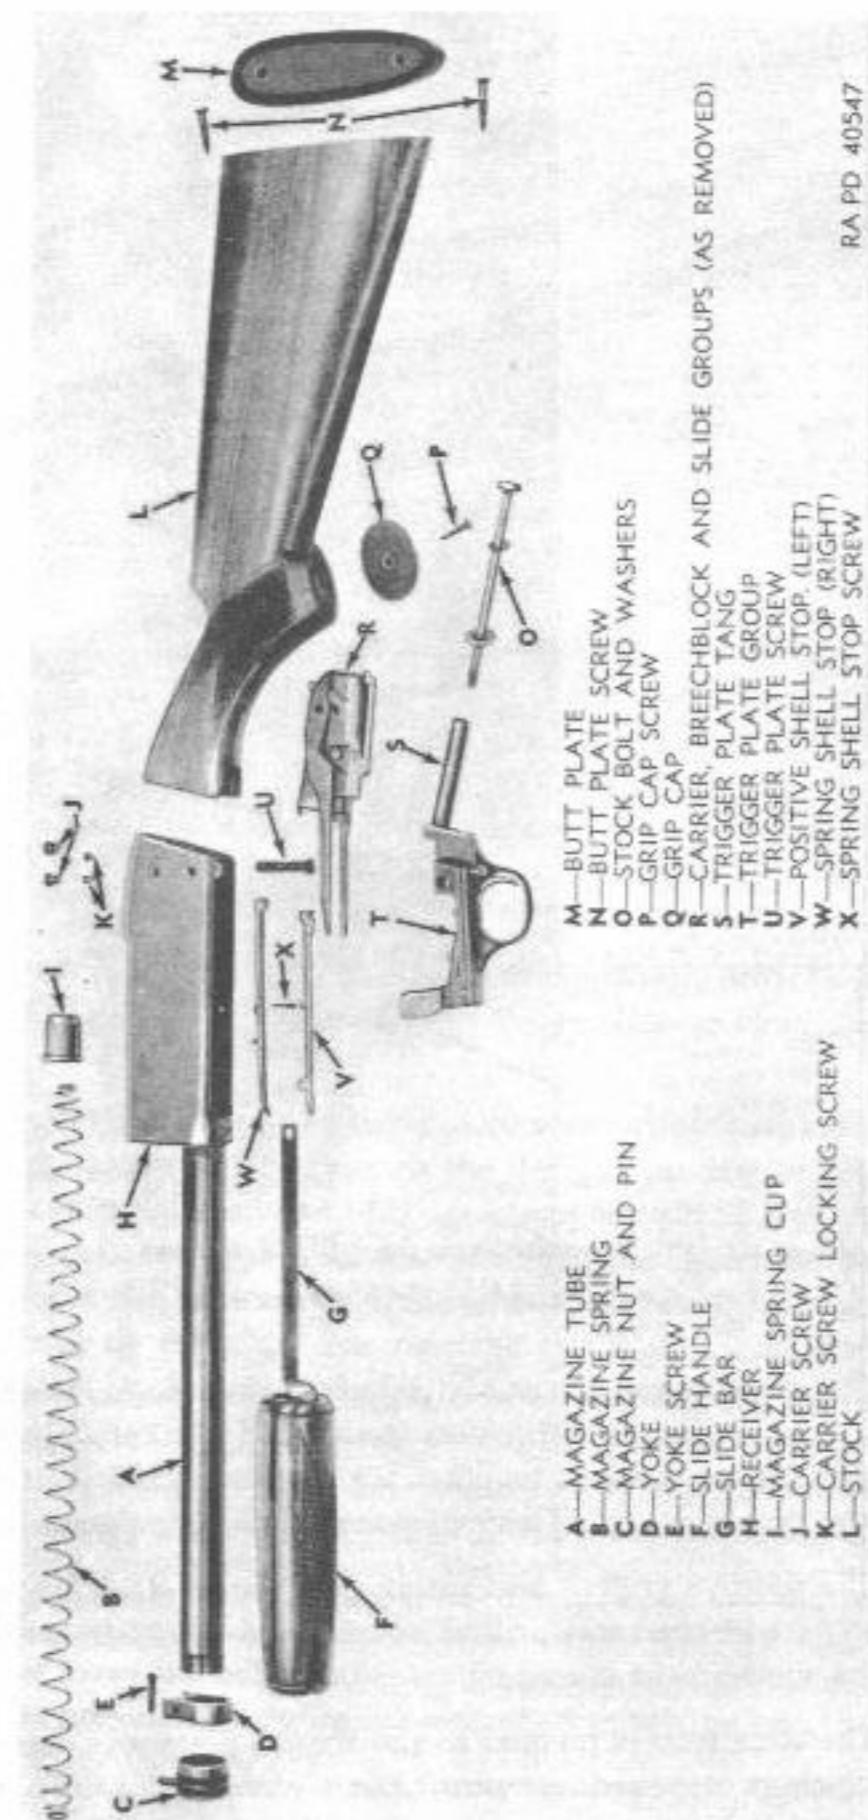

Figure 53—Disassembled View (Without Barrel)—Ithaca Shotgun M37
d. General Description (figs. 53, 63 and 64).
(1) The stock of the gun is bolted to the tang on the rear end of the receiver, and the barrel is locked to the forward end by means of interrupted threads on barrel and in receiver, and fastened to the forward end of the magazine by means of a lug on the barrel and a stud on the magazine nut as already explained. The magazine tube is screwed into the receiver at manufacture. The slide handle is mounted and operated on the magazine tube. The rear end of the slide handle bar passes through the forward end of the receiver and engages with and operates the slide, which in turn operates the breechblock, carrier, and shell stops, and cams back and cocks the hammer.
32. REMOVAL OF GROUPS (figs. 53, 63 and 64).